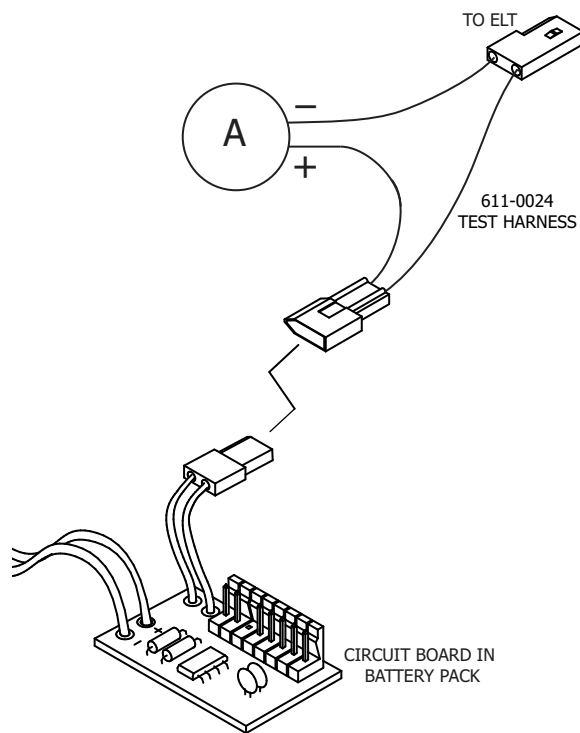

Figure 10. Current Draw Test Setup
- (1) Verify the ELT control switch is in the "OFF" position.
- (2) Separate the battery pack from the ELT.
- (3) Disconnect the 2-wire ELT power connector.
- (4) Install test harness 611-0024, or equivalent, in the power circuit. See "Figure 10. Current Draw Test Setup".